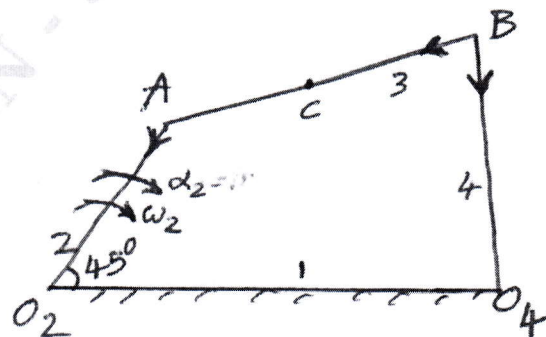

Fig.Q3(b)
- b. Fig.Q3(b) shows a four bar mechanism. Crank O_2A rotates at 200 rpm and an angular acceleration of 150 rad/sec^2 at the instant when the crank makes an angle of 45° to the horizontal. Find the acceleration of points B and C and angular velocities and angular acceleration of link 3 and link 4.